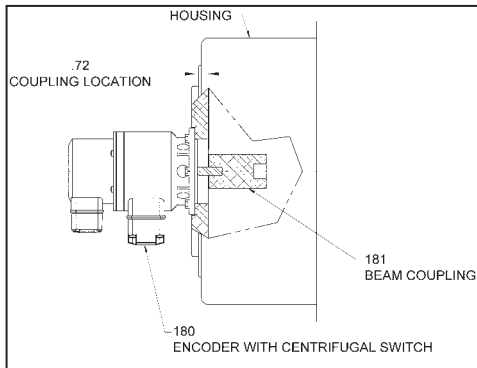

Figure 4
2. Brake max wear switch has NO/NC/COM terminals that are wired to the brake terminal block as shown in Step IV-B, Figure 4.